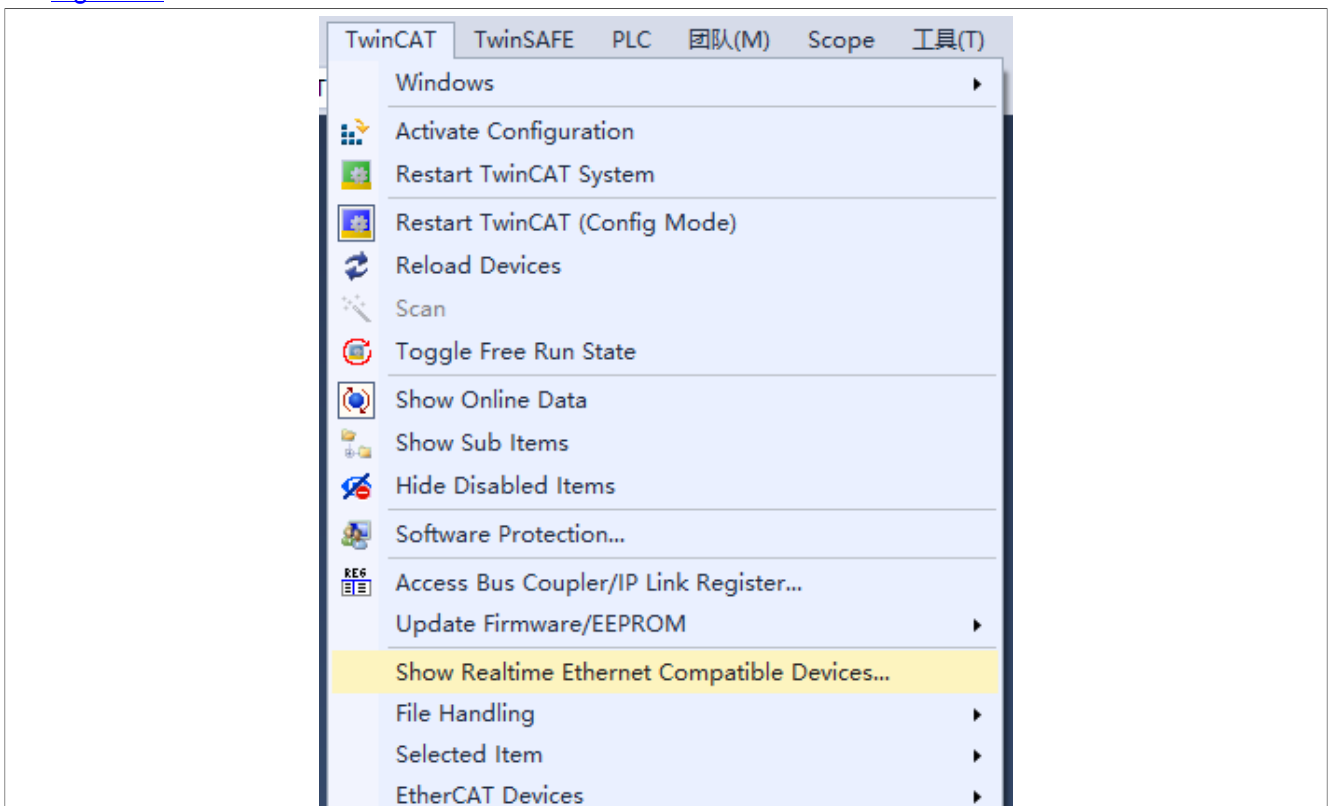

Figure 25. Select “Show Real-time Ethernet Compatible Devices”
3. Keep TwinCAT in Config mode and select **“Show Realtime Ethernet Compatible Devices...”**, as shown in Figure 25.